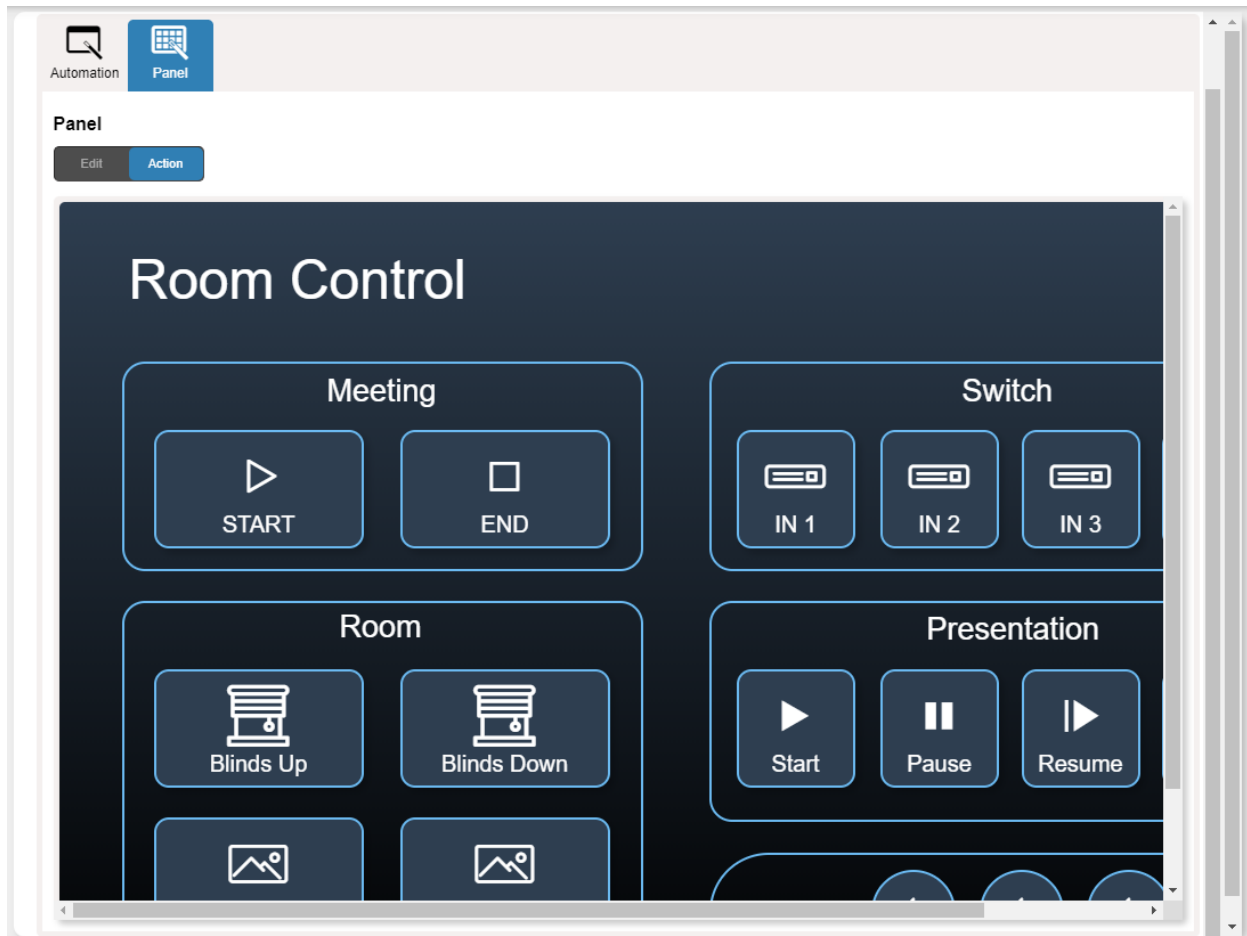

Figure 43:Automation Page – Panel Tab
2. Click the **Panel** tab. The default **VS-411XS** Maestro Room Control panel appears (see Figure 43).
2. Click the **Panel** tab. The default **VS-411XS** Maestro Control Panel appears (see Figure 43).
2. Click the **Panel** tab. The **VS-411XS** Maestro Control Panel appears (see Figure 43).